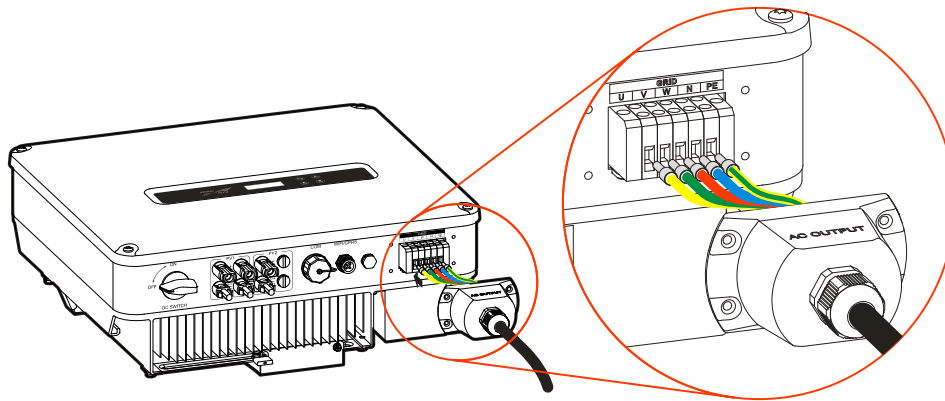

Figure3-23 Connect the AC output cable
- Step 2 Lead the AC output cable go through the AC output waterproof cover, crimp them to the tube terminals, and then fasten them to corresponding wiring terminal by screwdriver, as shown in Figure3-23.